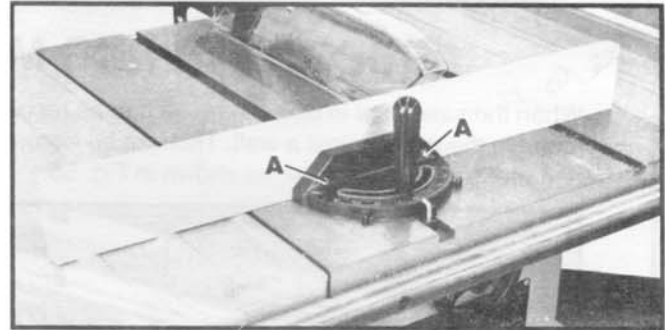

Fig. 57
For added safety and convenience the miter gage can be fitted with an auxiliary wood-facing, as shown in Fig. 57, that should be at least 1 inch higher than the maximum depth of cut, and should extend 12 inches or more on either side of the blade. This auxiliary wood-facing can be fastened to the front of the miter gage by using two wood screws (A) through the holes provided in the miter gage body and into the wood-facing.